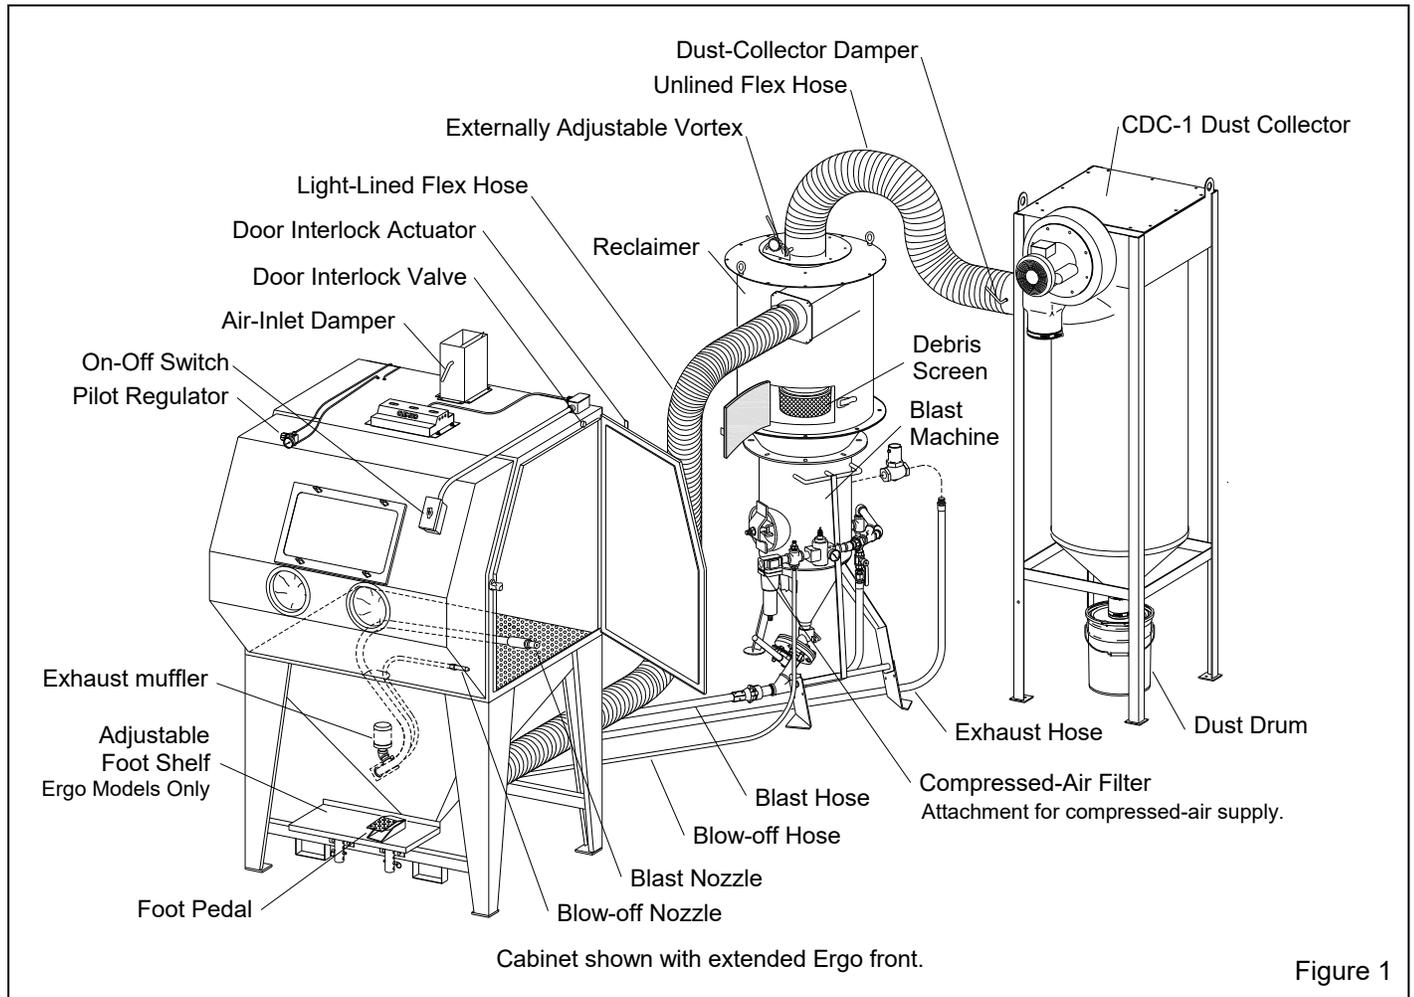
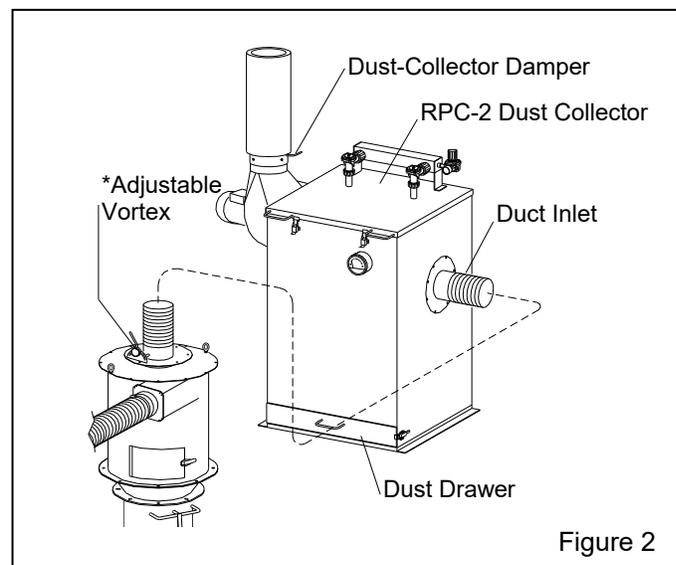
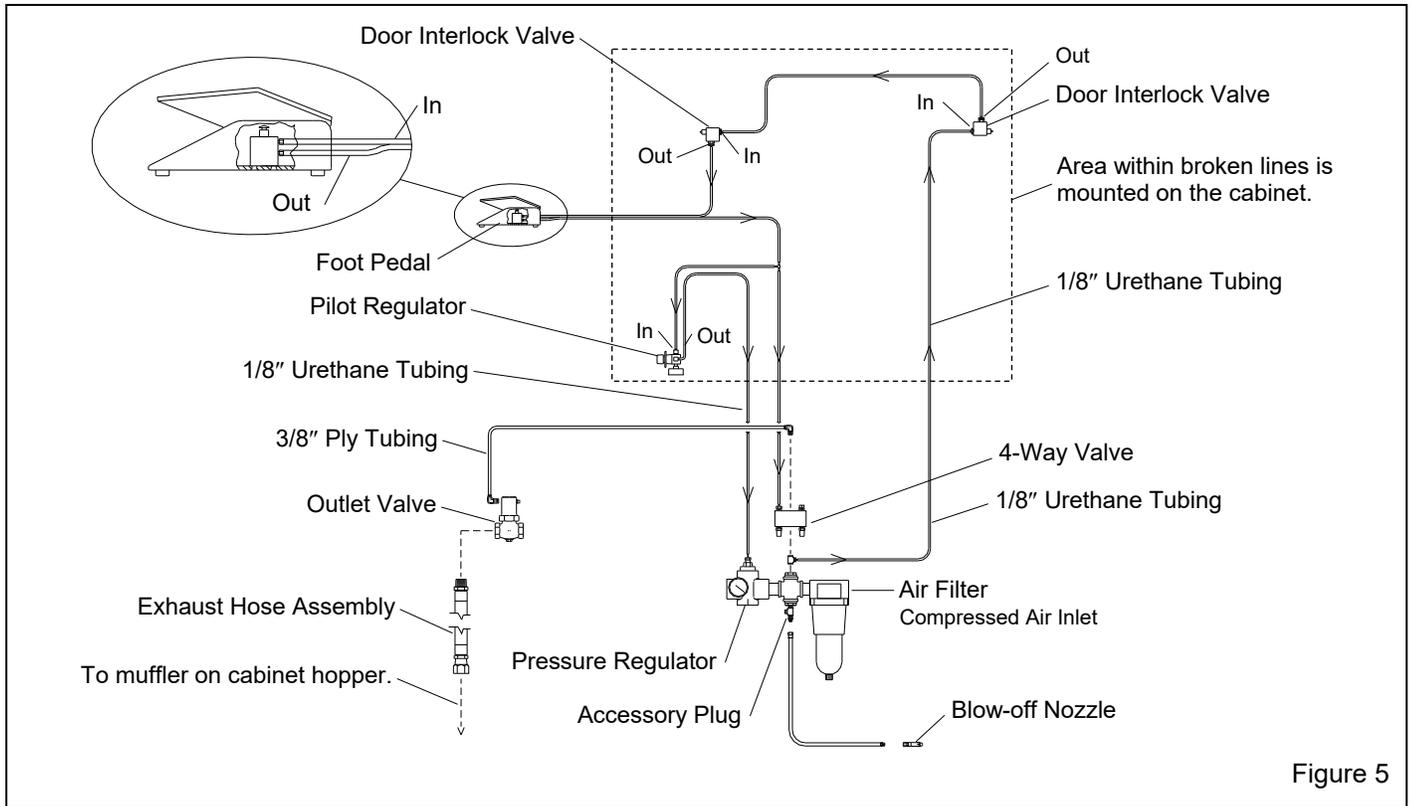

Figure 1
Figure 2
Figure 5
1.4.3 Refer to Figure 1 for arrangement of components with a CDC-1 dust collector. The illustration shows 900 cfm reclaimer mounted atop the blast machine, the smaller 600 reclaimer is mounted in the same manner. Figure 2 shows the arrangement with an RPC-2 reverse-pulse dust collector with dust drawer. The optional RPH-is set up the same way as the RPC-2, but includes a hopper for additional dust storage, and empties into a drum. The overall height of an RPH-2 is approximately 10.5 ft and 12 ft when the top access door is open. To upgrade, an RPC-2 or RPH-2 collector may be added at any time.
1.7.1 CDC-1 Dust Collectors: Shown in Figure 1, this collector is available in 600 cfm furnished with model PDS and EPDS cabinets and 900 cfm furnished with model PDN and EPDN cabinets. The single filter cartridge is cleaned by using a manually controlled pulse of compressed air. Dust collects in a 5-gallon dust drum, which must be frequently emptied. Refer to manual number 28225.
1.7.2 RPC-2 Dust Collectors: Shown in Figure 2, this collector is available in 600 cfm furnished with model PRS and EPRS cabinets and 900 cfm furnished with model PRN and EPRN cabinets. Dual filter cartridges are automatically cleaned by a timed, periodic pulse of compressed air. Dust collects in the drawer, and it must be frequently emptied. Refer to manual number 22788.
1.7.3 RPH-2 Dust Collector: The RPH-2 is available in 600 cfm and 900 cfm furnished with model PRH and EPRH cabinets. It is set up and operates the same as the RPC-2, as shown in Figure 2, but instead of a dust drawer, the collector sits atop a hopper, which provides additional dust storage, and empties into a drum. Refer to manual number 21449.
2.1.1 Refer to Figure 1 (and Figure 2 for optional reverse-pulse collector) for the general arrangement and Figure 5 for the control line schematic. Select a location where compressed air and electrical service are available. The cabinet location must comply with OSHA and local safety codes. Allow for full access to all doors and service areas and for efficient handling of large parts. Provide enough clearance in front of the dust collector to remove the dust drawer without tipping. Ideally, locate the blast machine directly behind the cabinet with the blast hose connection toward the cabinet. The reclaimer may be rotated on the blast machine to allow for as few bends as possible to prevent wear. Determine the best location for all components and position them before making compressed-air connections, electrical connections, and attaching flex hose.
2.5.1 Attach the 1/2" blow-off hose coming from the cabinet hopper, to the compatible fitting on the blast machine piping, between the air filter and pressure regulator. Refer to the schematic in Figure 5.
2.8.1 Uncoil the brown 1/8" urethane control tubing from the cabinet. The end of each tubing is numbered 1, 2 or 3. Connect the tubing to the adaptor with the corresponding number on the top of the pressure regulator, piping, and 4-way air valve. Refer to the schematic in Figure 5 to confirm the connections.